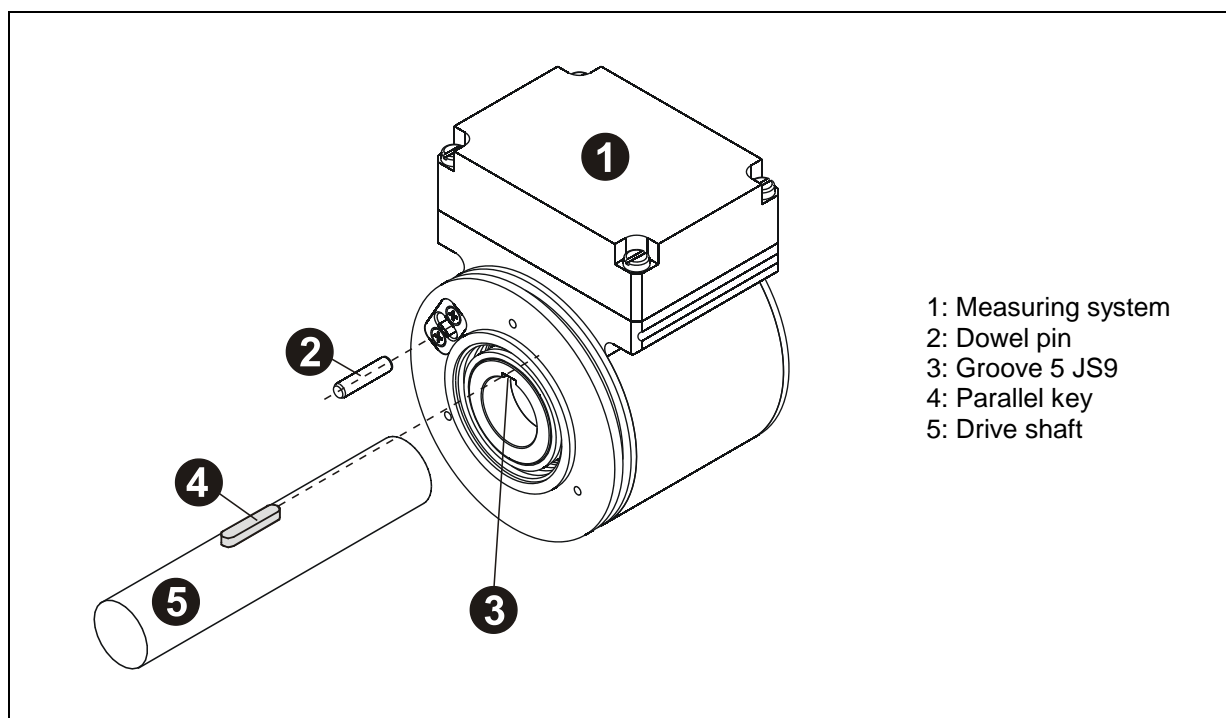

Figure 4: Form closure
- Radial slipping of the measuring system on the drive shaft must be prevented by means of form closure, using a parallel key / groove combination; the measuring system must be fixed on the side of the drive using a dowel pin, see Figure 4.